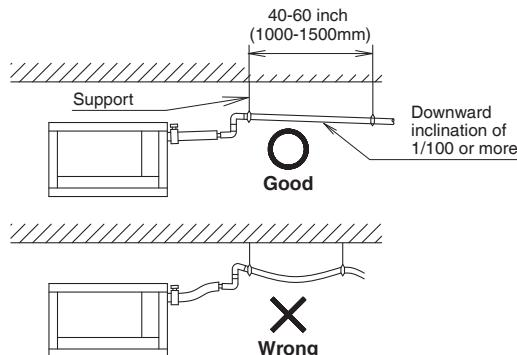

Fig. 12
(1) Carry out drain piping.
- Install the drain piping as short as possible with downward inclination of 1/100 or more and without such that air may not stagnate. (Refer to Fig. 12) (It may cause abnormal sound such as bubbling noise.)
- Install supports at a distance of 40 to 60 inch (1000 to 1500mm) so that the piping may not deflect. (Refer to Fig. 12)
- Make sure to use the attached drain hose (2) and the clamp metal (1). Insert the drain hose (2) into the drain socket up to the point where the socket diameter becomes larger. Put the clamp metal (1) to the taped hose end and tighten the clamp metal (1) with torque 10.6~13.3lbf·ft (120~150 N·cm).